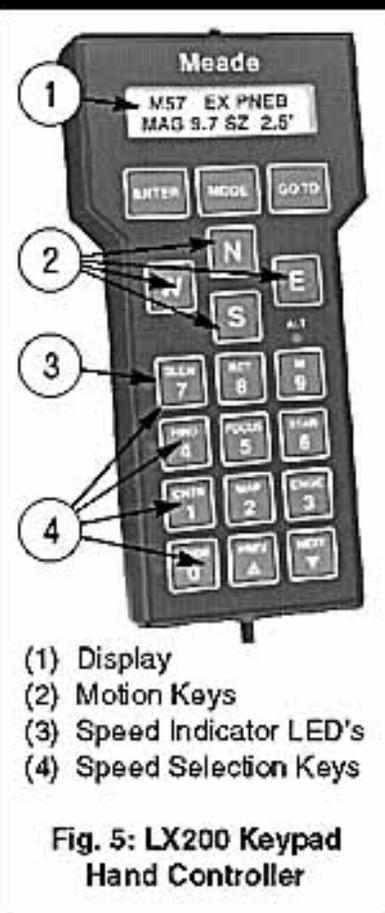

Fig. 5: LX200 Keypad Hand Controller
4. Turn on the power switch on the Power Panel of the LX200. The Keypad Display (1, Fig. 5) will show "MEADE" for several seconds as the microprocessor does a self-diagnostic test. When the self-diagnostic test is complete, the display will show "TELESCOPE" on the top line, "OBJECT LIBRARY" on the lower line, and the red LED light next to the "SLEW" button will light up.
5. At this point, the LX200 is ready to use. Select the speed at which you want to move the telescope by pressing the appropriate Speed Selection Key (4, Fig. 5). Note that you will be able to "see" the telescope move only in the SLEW and FIND modes; CNTR (center) and GUIDE motions can only be seen while looking through the telescope. The red LED next to that key (3, Fig. 5) will light, indicating the speed selected. Then press one of the four direction keys (2, Fig. 5) to move the telescope in that direction at the selected speed.